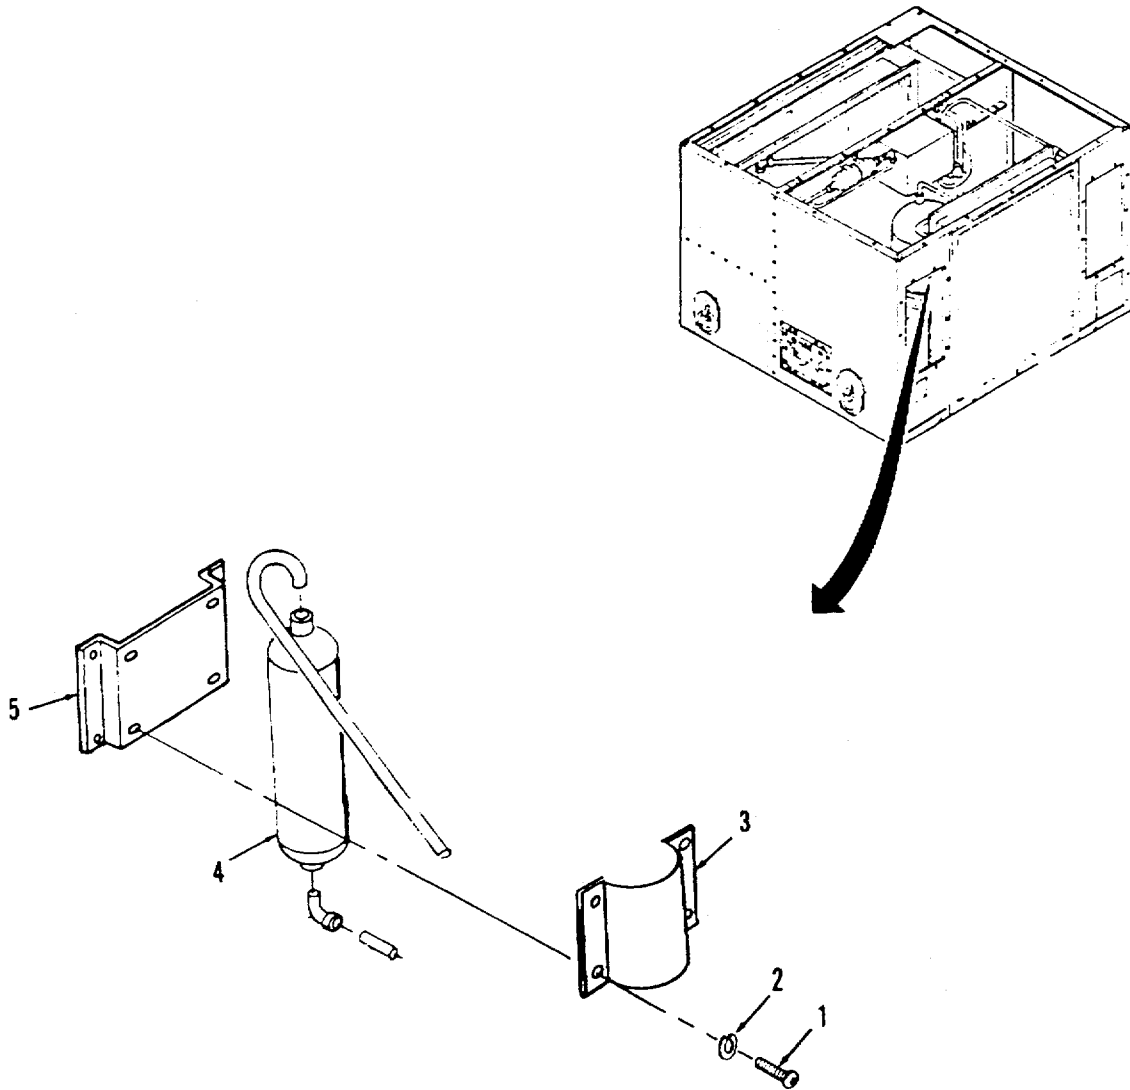

Figure 4-15. Receiver.
**a. Removal.** (Refer to Figure 4-15).
- (1) Remove four screws (1), four lock washers (2), and receiver clamp (3) holding receiver (4) onto bracket (5).
- (2) Remove receiver (4) from unit.